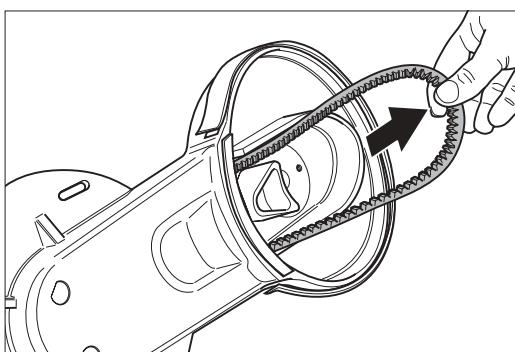

Fig. 68: Pulling the V-belt out of the attachment.
- 10 Pull the worn-out V-belt out of the attachment (Fig. 68). Clean the two belt pulleys and the attachment. Wear a protective mask (P3) whenever appropriate.